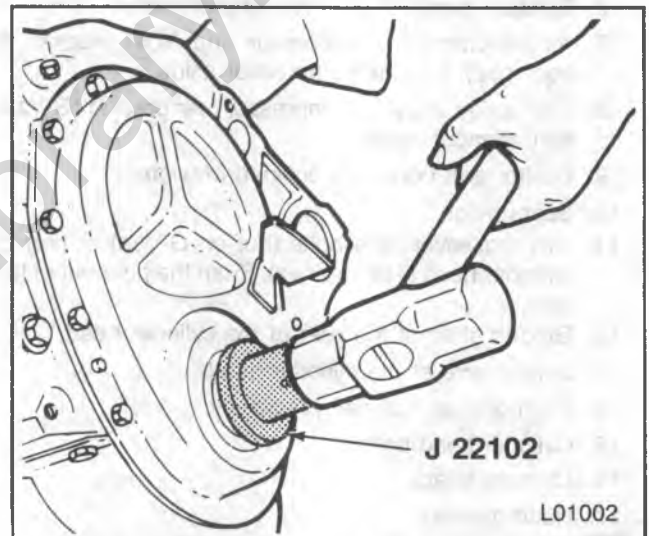

Figure 11 — Installing the Front Crankshaft Seal
↔ Install or Connect (Figures 11 and 12)
2. Front crankshaft seal. Use J 22102 (figure 11). The open end of the seal faces inside the engine. Coat the seal lips with engine oil.